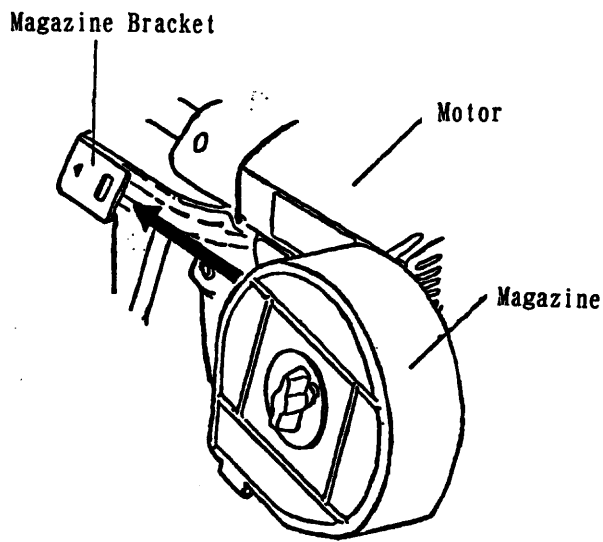

Fig. 8
- (b) Installing the magazine :- Push the magazine onto the magazine holder until it clicks firmly into position. The magazine is inserted onto the tool from the motor end in the direction of the feeding mechanism, so that if two-handed control of the tool is desired, the magazine may be used for extra leverage by pushing in the direction of insertion. To remove the magazine, press the clamp plate on the back of the magazine and remove it from the magazine holder. (see fig. 8)